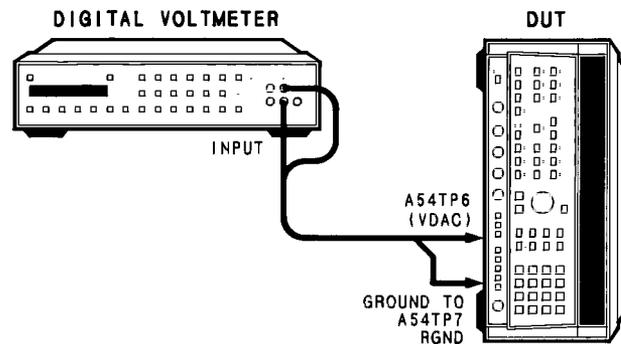

Figure 5-13. YO Pretune DAC Gain Test Setup
48. Connect the active probe to the Spectrum Analyzer input and connect the probe to the output of the 40 kHz LPF on A36 (see Figure 5-13). (This is the terminal on A36L7 next to A36C24.)
1. Position the DUT in the test position as shown in Figure 5-13 with bottom cover removed and turn the LINE switch on. Connect the test equipment as shown in Figure 5-13 and allow one-half hour warm up time. Be sure to connect DVM ground to A54TP7 RGND.